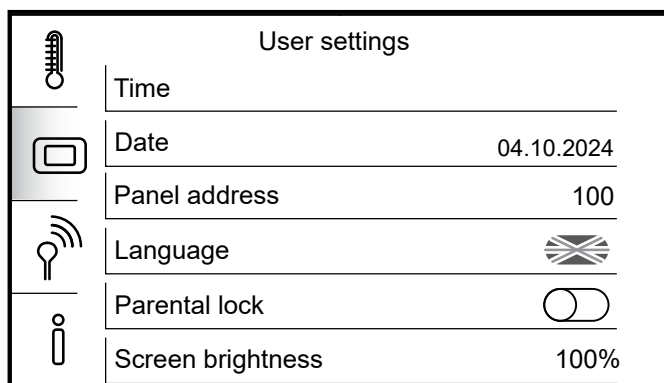

Figure 10-5: User settings menu.
2. Then tap the User settings. Refer to Figure 10-5.